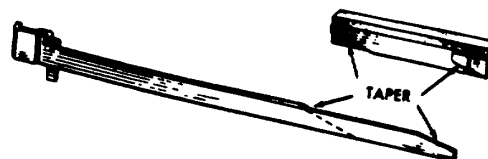

FIGURE 52
- b. The Stone has a lug at each end, on the side of the stone holder. The lugs are tapered on the bottom side (Figure 52). The Wedge has a matching Taper on the top edge. As the Wedge moves forward in the stone slot, the Stone is pushed upward. This expands the diameter of the honing unit and causes the Stone to contact the surface of the hole to be honed. The Truing Sleeve is used to make Stone and Shoe surfaces parallel.